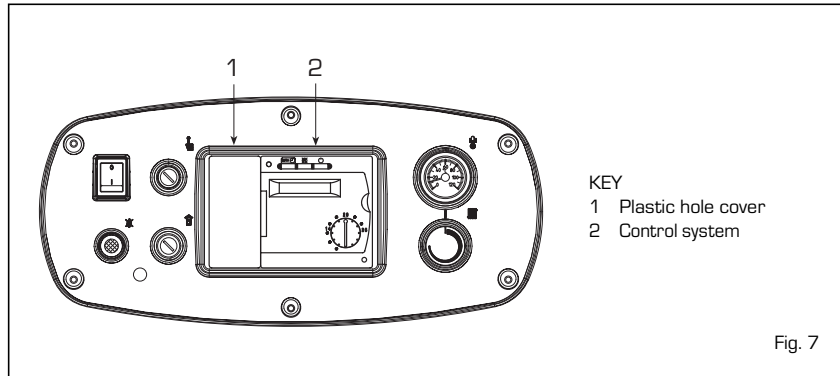

Fig. 7
All the boiler functions can be operated by the optional control system code 8096303, supplied with external temperature sensor (SE), boiler immersion sensor (SC) (fig. 7). Another series of low tension connectors may be connected to the control system, these are used for the connection of the sensors and the environment unit (the connectors are to be found in a bag inside the control board). The bulb of the sensor of the external D.H.W. tank (SS), optional code 6277110, must be inserted in the hot water sheath and the boiler probe (SC) in the boiler sheath. To assemble the external temperature sensor (SE) follow the instructions given on the packaging of the sensor.